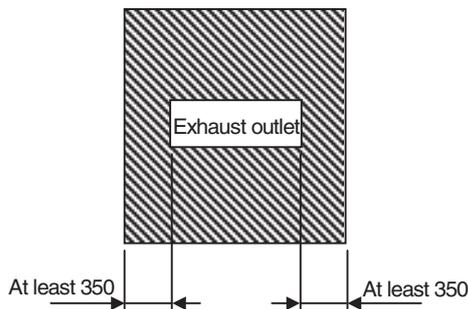

Figure 1
- a) For an installation like that of Figure 1, the shaded area indicates the inflow area.
The figure at the right shows sound attenuation over distance. (Figure 1)
Example. For a type 280 outdoor unit, the sound level in the 50-Hz range at 3m distance is specified as 56 dB(A). In Figure 1, follow the 3m distance line downwards to where it crosses the slope (a), and then horizontally to point (b) at the left to find the attenuation of 6.8 dB(A). Therefore, $56 - 6.8 = 49.2$ dB(A)